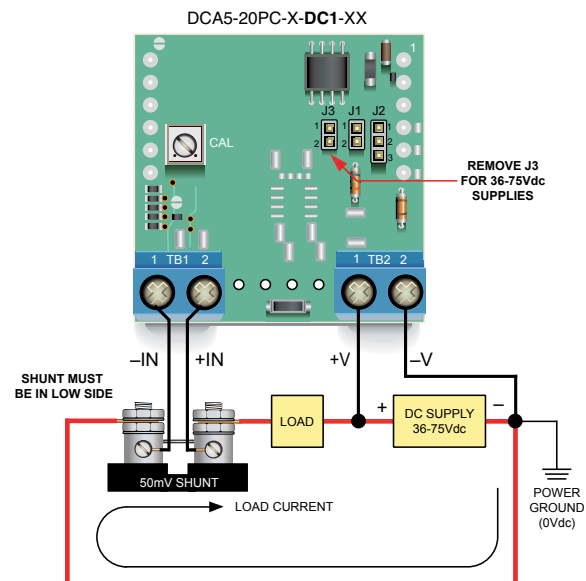

Figure 3. Low-Side Shunt Connections for "-DC1" Models Modified for 36-75Vdc Non-Isolated Power (See Technical Note 5)
5. **Operation With 36 to 75Vdc Power:** As shipped, all '-DC1' models' rated operating supply range is +5 to +40Vdc. However, '-DC1' models can be user configured for 36 to 75Vdc operation by removing (opening) jumper J3. Please note that this user modification can only be performed on '-DC1' power models. Also, all '-DC1' models – including those that have been modified for 36-75Vdc operation – can only be connected in low-side, grounded-shunt applications. See Figure 3 for detailed wiring information.